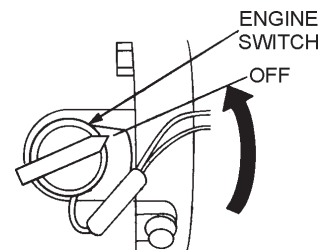

Figure 10. Engine ON/OFF Switch (OFF)
- After the engine **cools**, turn the engine ON/OFF switch to the "**OFF**" position (Figure 10).